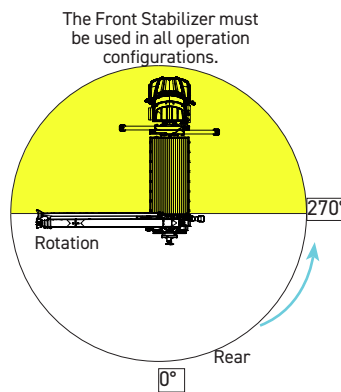

Fig 3
6. Repeat steps 4 and 5 until the boom is at the 270° position as shown in Fig. 3. This completes one cycle.